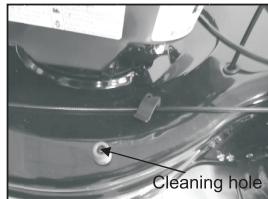

Fig.19
1. Using a water hose, insert the hose connector into the cleaning hole-connector on the deck; ensure they are firmly connected (Fig.19);